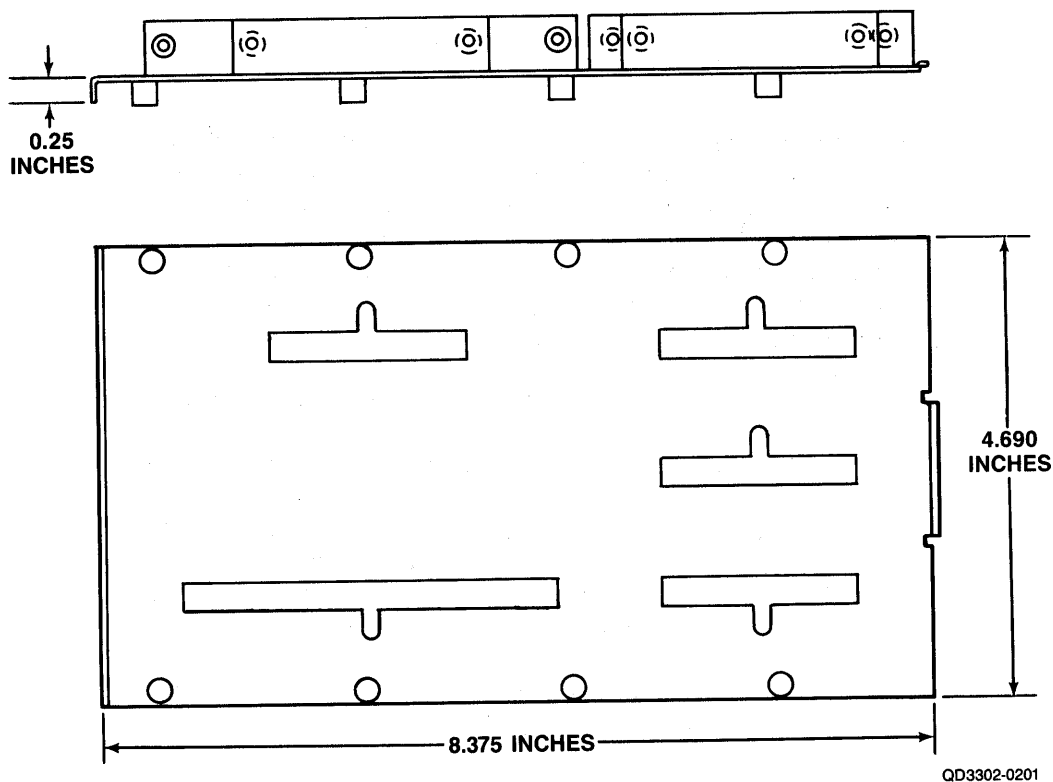
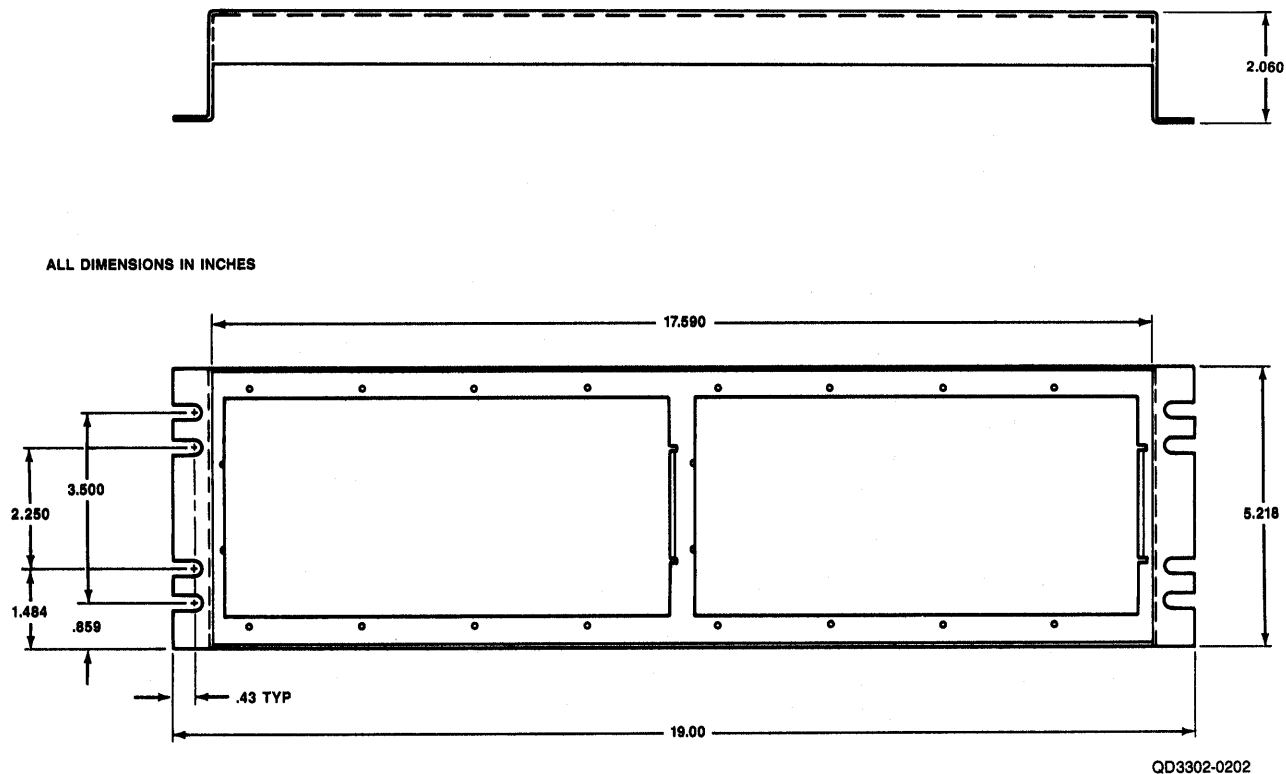

Figure 4-6. Cable I/O Adapter Panel
Figure 4-7. Rack-Mount Panel
The cable I/O adapter panels are designed to fit directly into the I/O bulkhead that is built into most FCC-compatible DEC CPU expansion cabinets. See Figure 4-6. If there is no I/O bulkhead in the cabinet, item 6, the rack-mount panel, holds two cable I/O adapter panels and mounts in any standard 19-inch RETMA rack. The rack-mount panel is shown in Figure 4-7.
There are two possible separate cabinet configurations. In one, the drives are mounted in a freestanding RETMA rack (a RETMA rack attached to a PDP CPU cabinet would not count as a separate cabinet installation at all). In the other configuration, the drives have their own cabinets and are themselves freestanding. These two configurations are shown in Figures 4-7 and 4-8. The cabling procedure that follows is a generic one that is for use with either configuration. Consult the illustrations for details.
11. Route one end of the prepared cable through the widest slot in the cable I/O adapter panel (see detail in Figure 4-6). Clamp the bare shielding against the cable I/O adapter panel with the clamping bar.